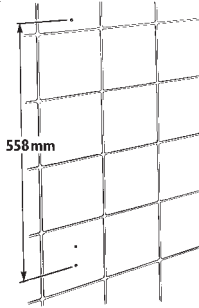

Fig. 16
4. Measure the position of the top bracket mounting hole with a spirit level. This should be 558mm above the lower mounting hole of the bottom bracket, Fig. 16.